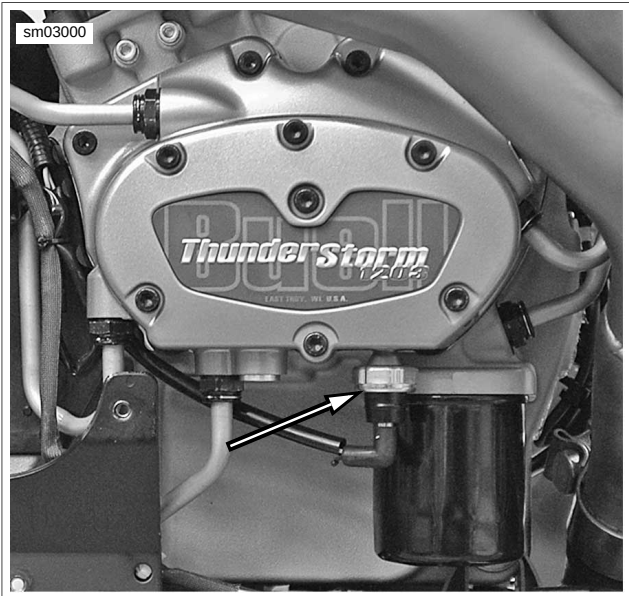

Figure 3-101. Oil Pressure Indicator Switch
1. See Figure 3-101. Unplug connector from oil pressure indicator lamp switch located under the oil pump next to the oil filter mount, unscrew and remove oil pressure switch from crankcase.